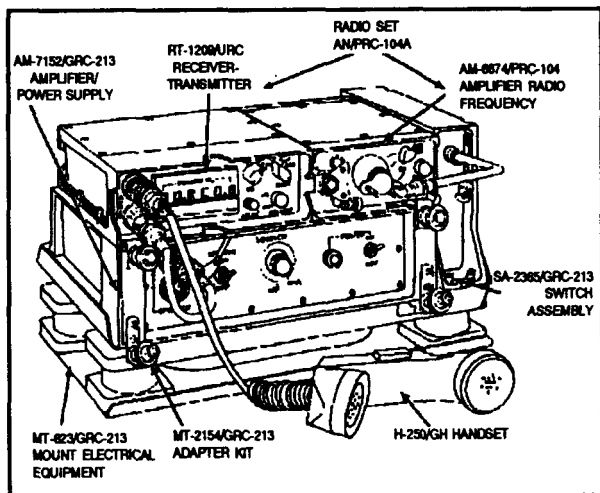

Figure 4-16. Radio set, AN/GRC-213.
**AN/GRC-213.** This radio set is a vehicular version of the 20 watt AN/PRC-104 radio and can be converted into a manpack configuration. The set includes three antennas: the whip, the doublet, and the NVIS antenna. The AN/GRC-213 will provide secure voice and data communications when used with the KY-65 voice or KY-99. See Figure 4-16. Its components are—